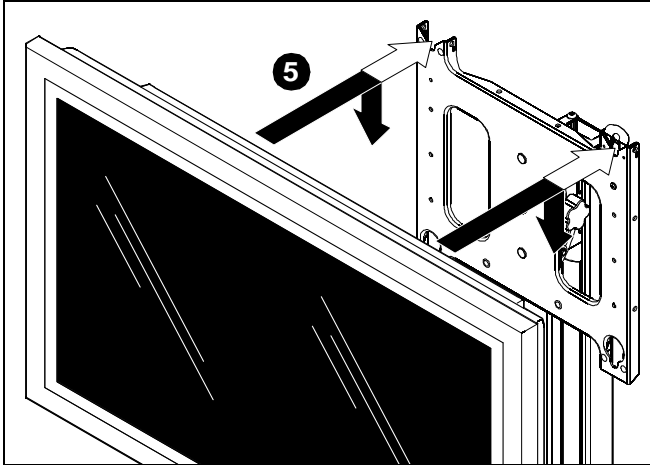

Figure 8
4. While supporting both sides of display, align four mounting buttons on display or interface bracket with four mounting holes in head assembly. (See Figures 8 and 9)
- Lower display into place listening for audible "click" to ensure recessed area of mounting buttons are properly seated in lower area of mounting holes. (See Figures 8 & 9)